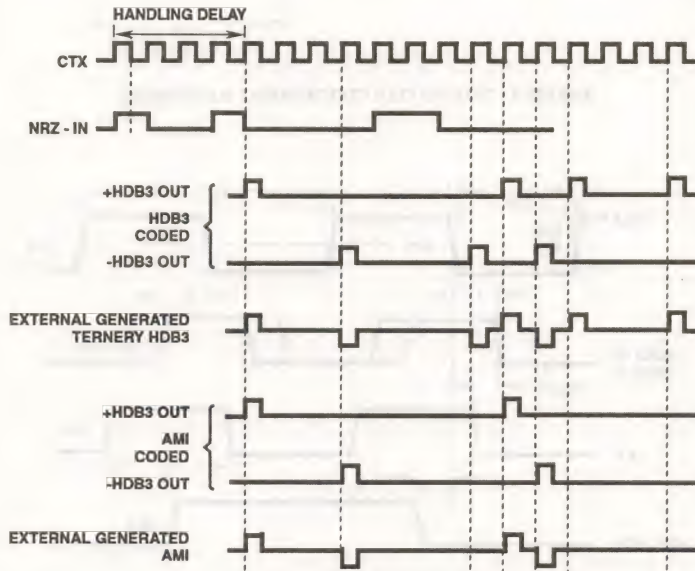

FIGURE 1. TRANSMITTER CODER OPERATION TIMING WAVEFORMS - NRZ TO HDB3/AMI CODING
The CD22103A is designed to code and decode HDB3 signals which are coded as binary digital signals (NRZ-IN) and (+ HDB3 IN, -HDB3 IN), accompanied by sampling clocks (CTX) and (CRX). The two binary coded HDB3 outputs, (+ HDB3 OUT, -HDB3 OUT) may be externally mixed to create the ternary HDB3 signals (See Figure 1).
**Transcoder Operation****Transmitter Coder (See Figure 1)**